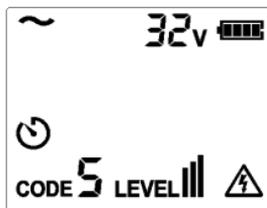

Figure 9.1d – DC Voltage (>30V) Measurement
7. When the voltage is 8V~480V DC/AC (50/60Hz), and the measured voltage is greater than 30V, then the display will appear the same as **Figures 9.1d, 9.1e and 9.1f**.